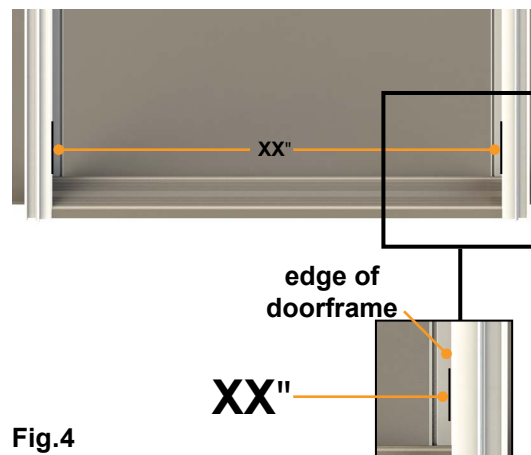

Fig.4
B. Measure the width of the door frame (**Fig. 4**) and **round up** to the nearest even number to obtain the rough opening.